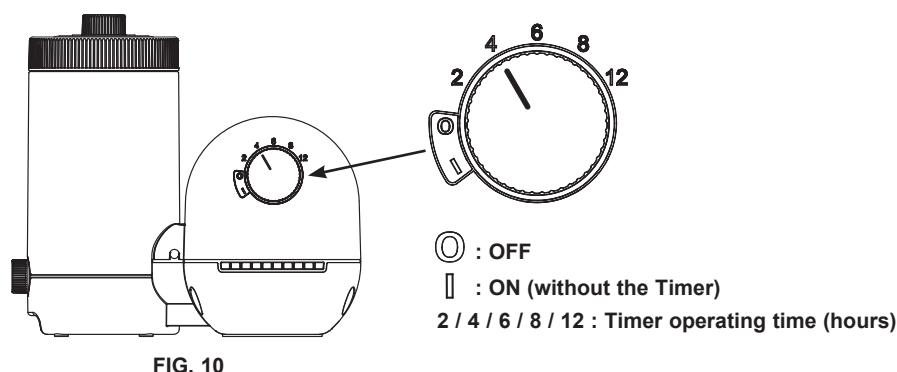

FIG. 10
4. With water flowing into filter pump, the water pressure will allow the air trapped inside to escape from the air release valve (2). When all the air has escaped water will flow out of the valve (2). When this occurs gently finger tighten the valve (2) in a clockwise direction.
- A. Plug the power cord into the electrical outlet and set the timer dial to the desired operating hours (see Fig. 10). See the "Operating Time Table" for the required operating hours related to each pool size.